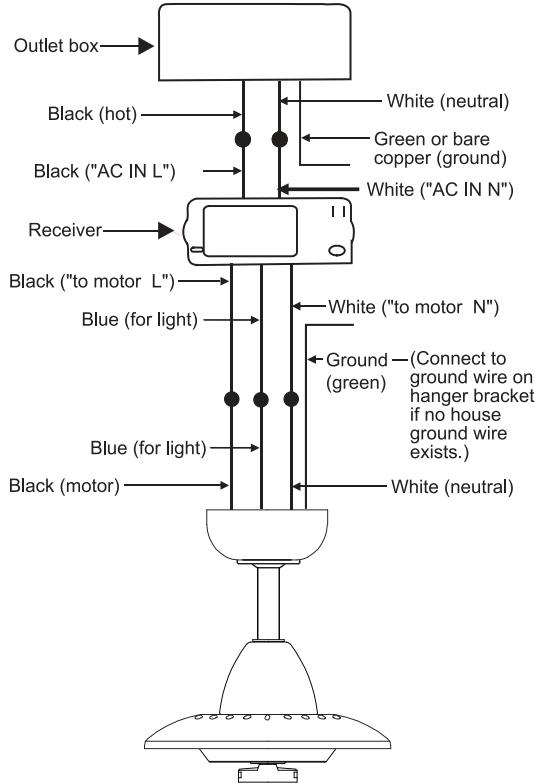

Fig. 13
Step 2. Motor to Receiver Electrical Connections: (Fig. 13) Connect the black wire from the fan to the black wire marked "TO MOTOR L" on the receiver. Connect the white wire from the fan to the white wire marked "TO MOTOR N" on the receiver. Connect the blue wire from the fan to the blue wire marked "FOR LIGHT" on the receiver. Secure all the wire connections with the plastic wire nuts provided.
Step 3. (Fig. 13) Receiver to House Supply Wires Electrical Connections: Connect the black (hot) wire from the ceiling to the black wire marked "AC in L" from the receiver. Connect the white(neutral) wire from the ceiling to the white wire marked "AC in N" from the Receiver. Secure the wire connections with the plastic wire nuts provided.
Step 4.(Fig.13) If your outlet box has a ground wire (green or bare copper) connect it to the fan ground wires; otherwise connect the hanging bracket ground wire to the mounting bracket. Secure the wire connection with a plastic nut provided. After connecting the wires, spread them apart so that the green and white wires are on one side of the outlet box and black and blue wires are on the other side. Carefully tuck the wire connections up into the outlet box.